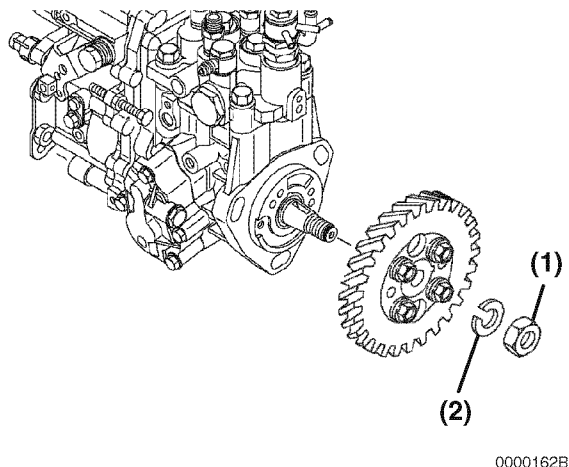

Figure 7-18
21. Once the fuel injection pump drive gear and hub assembly has “popped” loose from the tapered fuel injection pump drive shaft, carefully remove the drive gear nut (Figure 7-18, (1)) and lock washer (Figure 7-18, (2)).